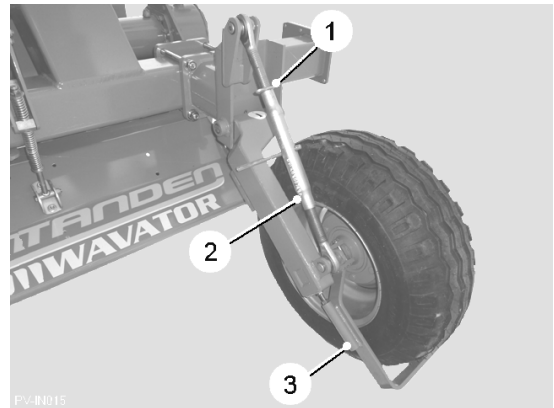

Fig. 7
On machines with depth wheels, loosen the adjustable link locking tab (item 1, fig. 7) and turn the link bar (item 2, fig. 7). Adjust both depth wheels evenly. The wheel scraper (item 3, fig. 7) should be set as close to the surface of the tyre as possible without fouling it.